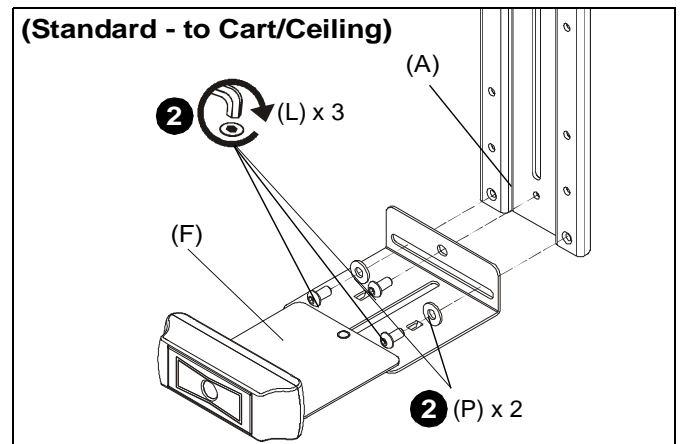

Figure 18
2. (**Standard to cart/ceiling**) Use three 1/4-20 x 1/2" button head cap screws (L) and two large washers (P) to secure camera mount (F) to upright bracket (A). (See Figure 18)